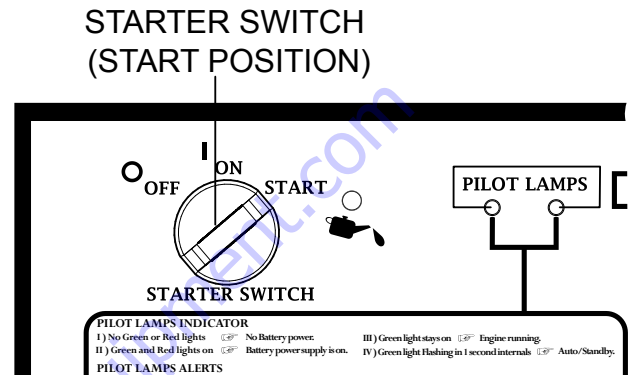

Figure 11. Starter Switch (START)
2. Turn the starter switch to the **START** position (Figure 11).
3. Turn the starter switch to the **START** position (Figure 11).
- Turn the starter switch to the **START** position (Figure 11).